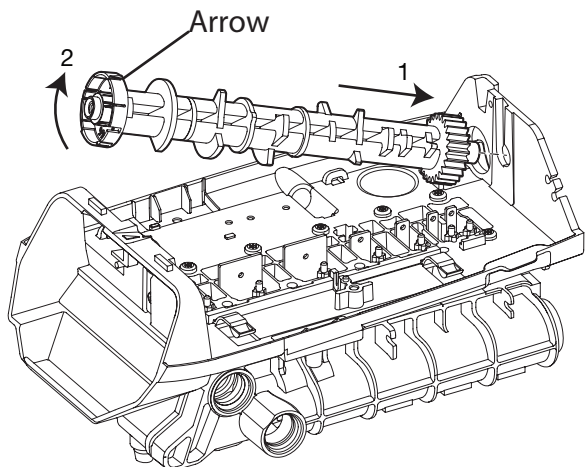

Figure 36
1. Place system into bypass (if needed, de-pressurize the system by forcing the back flapper open). See Figure 36.